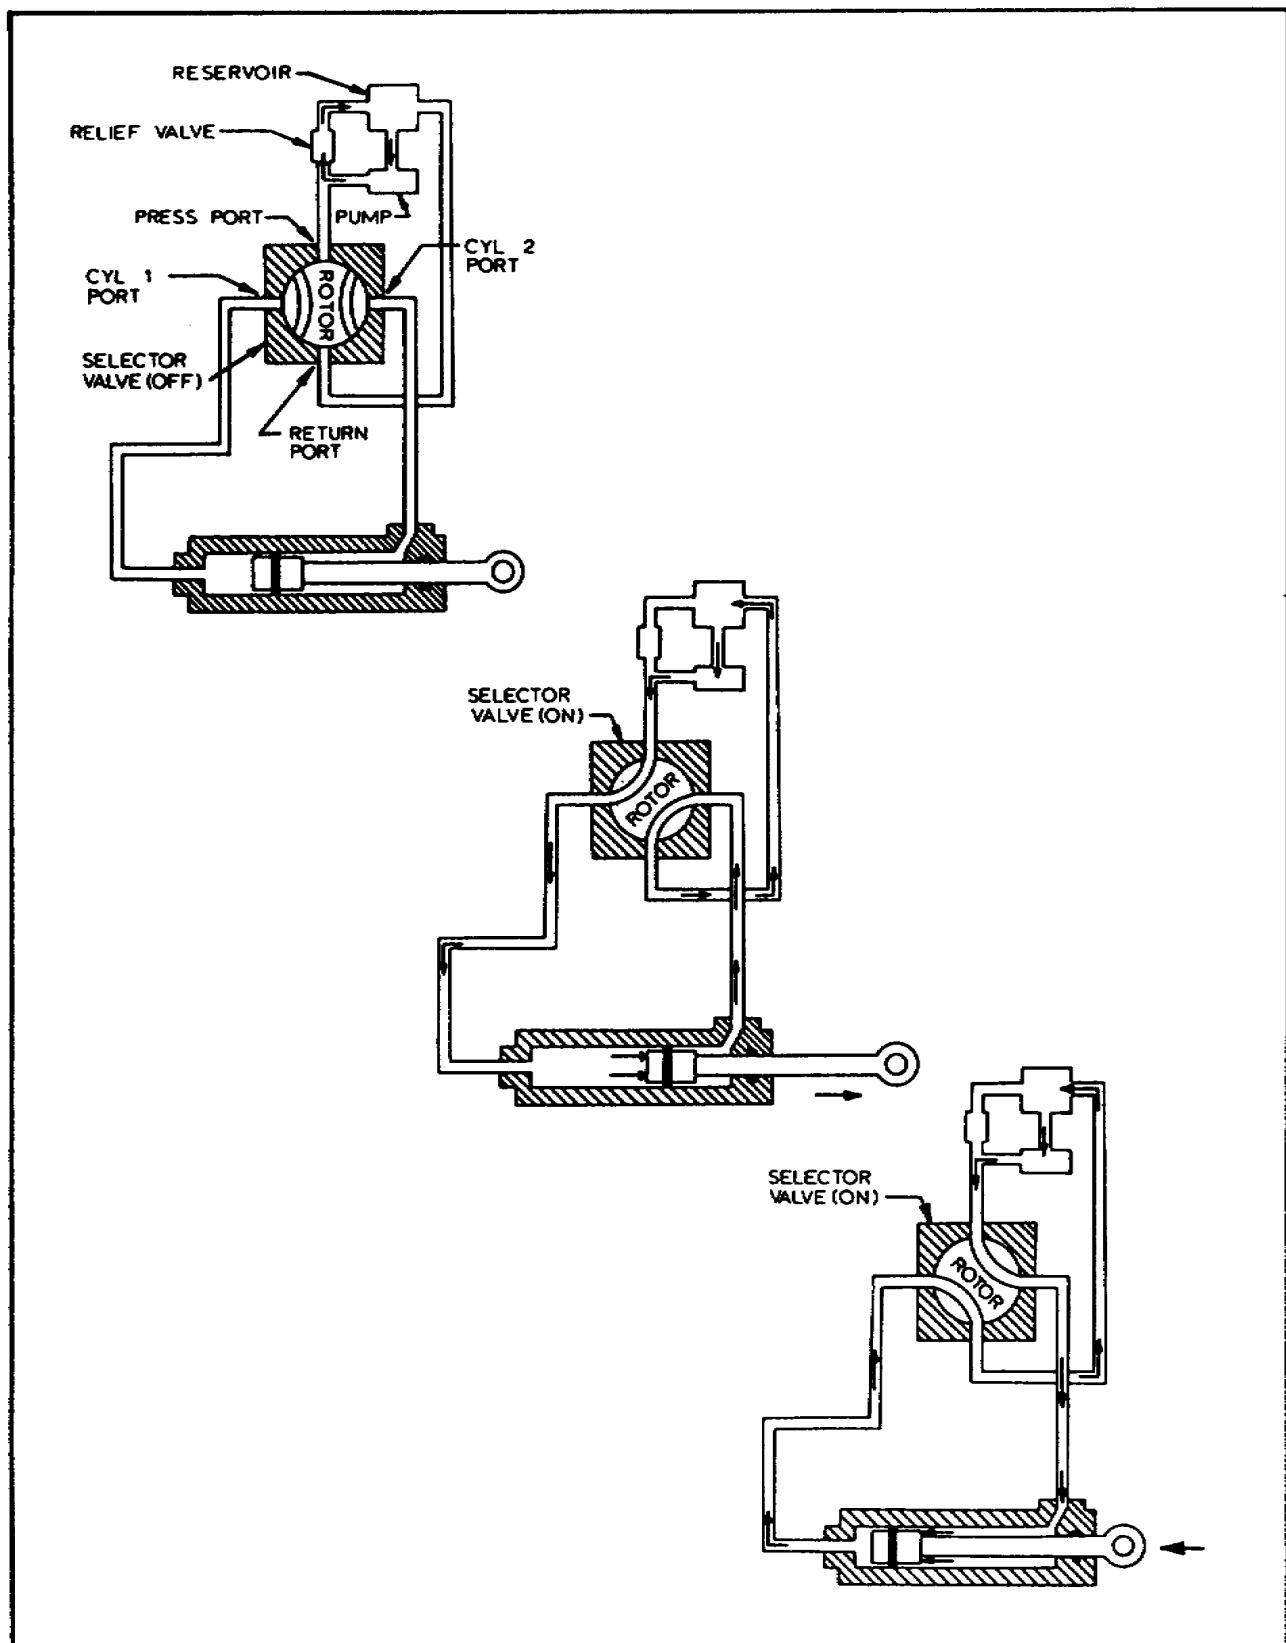

Figure 2-3. Typical Rotor Closed-Center Selector Valve.
- The rotor-type, closed-center selector valve is shown in Figure 2-3. It has a rotor as its valving device. The rotor is a thick circular disk with drilled fluid passages. It is placed in its various operating positions by relative movement of the valve control handle. In the OFF position, the rotor is positioned to close all ports. In the first ON position, the rotor interconnects the pressure port with the number 1 cylinder port. The number 2 cylinder port is open to return. In the second ON position the reverse takes place.